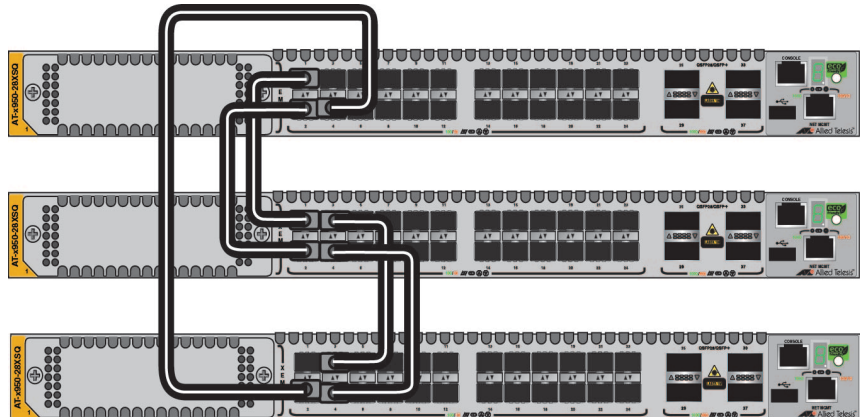

Figure 41. Unsupported Trunk with Different Numbers of Links Between Switches
- ❑ In stacks of three or more switches, the number of links in the trunk has to be the same on all switches. The trunk in Figure 41 is unsupported because the middle switch is connected to the top and bottom switches with two links each, while the top and bottom switches are connected with only one link.